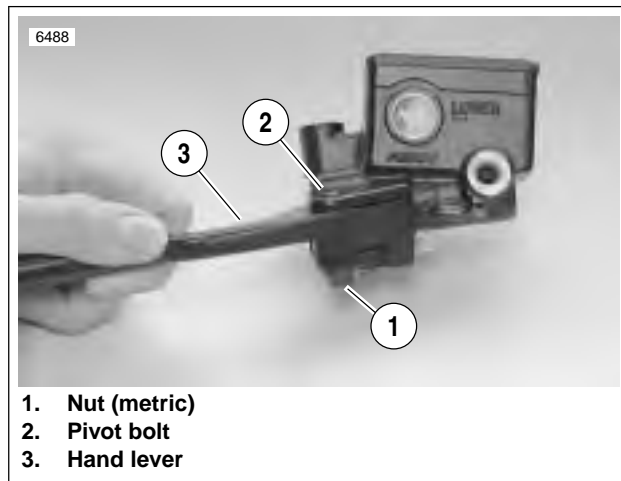
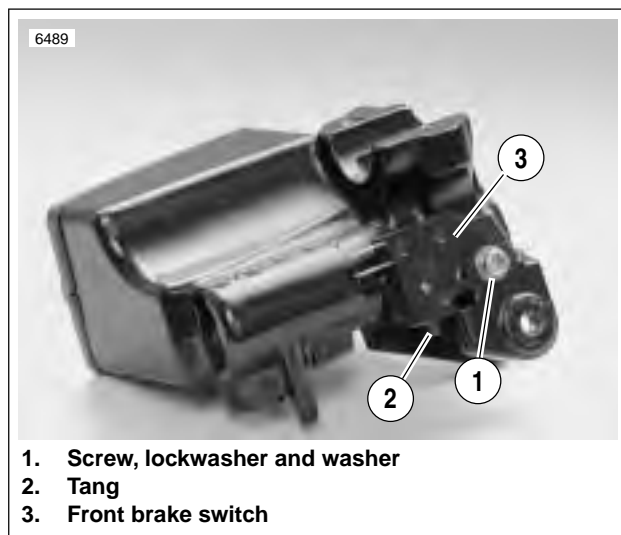
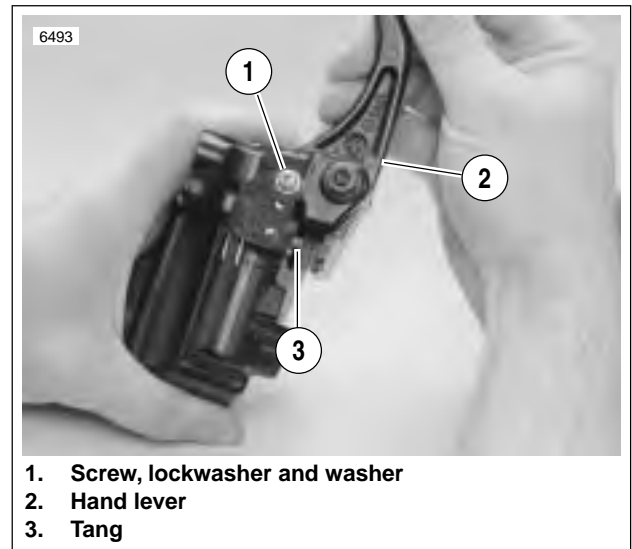

Figure 2-28. Hand Lever
Figure 2-29. Front Brake Switch
Figure 2-34. Testing Hand Lever
1. See Figure 2-28. Detach front brake hand lever.
- a. Remove nut (1) (metric) from lever pivot.
- b. Remove pivot bolt (2) from lever pivot.
3. See Figure 2-29. Remove screw, lockwasher and washer (1) holding front brake switch (3) to master cylinder assembly. Remove switch.
2. Insert piston assembly, spring first, into master cylinder. Secure with a **new** snap ring (6).
3. Install ridge on boot (5) into groove on piston (4).
4. See Figure 2-28. Install front brake hand lever.
- b. Lubricate pivot bolt (2) with LOCTITE ANTI-SEIZE.
- d. Install nut (1) (metric). Tighten to 44-62 **in-lbs** (5-7 Nm).
5. See Figure 2-29. Install front brake lamp switch (7).
- a. Attach front brake switch with screw, washer and lockwasher (1). Tighten to 7-13 **in-lbs** (0.8-1.5 Nm).
- b. See Figure 2-34. Test switch action. Tang (3) on switch must release when hand lever (2) is moved.